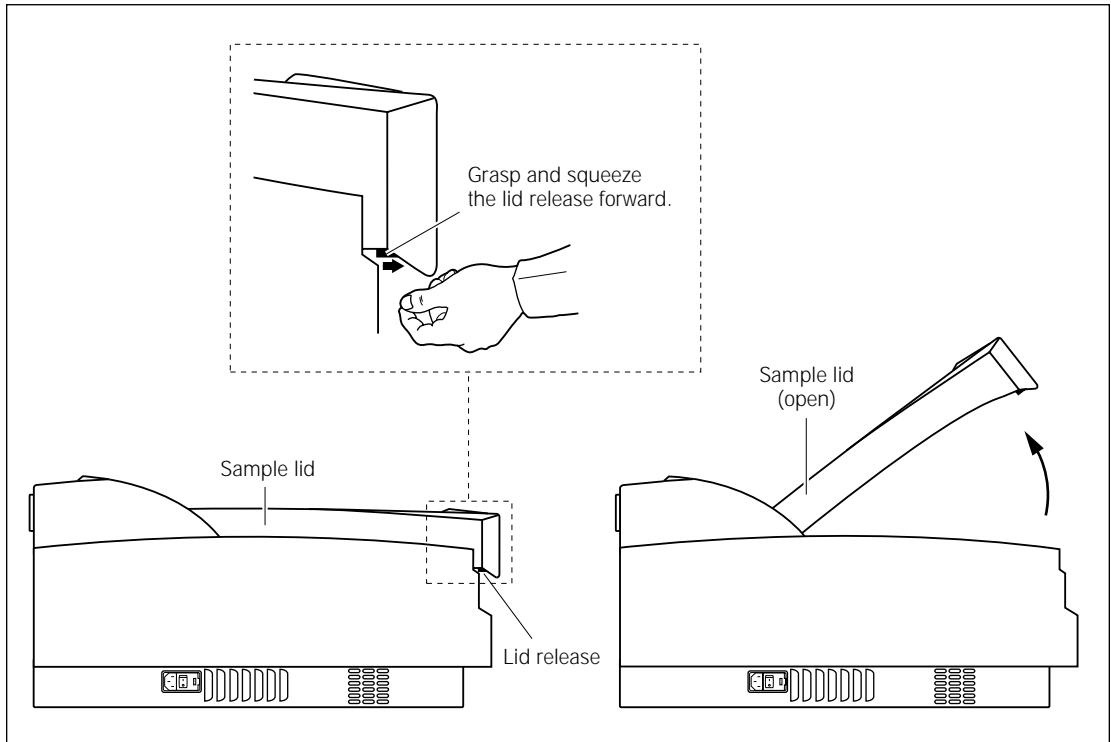

Figure 6-1. Opening the sample lid.
1. Grasp the lid release under the center front of the sample lid and pull the release forward until the lid opens (figure 6-1). Raise the lid all the way.
1. If the sample lid is not already open, grasp the lid release under the center front of the sample lid and pull the release forward until the lid opens (figure 6-1). Raise the lid all the way.